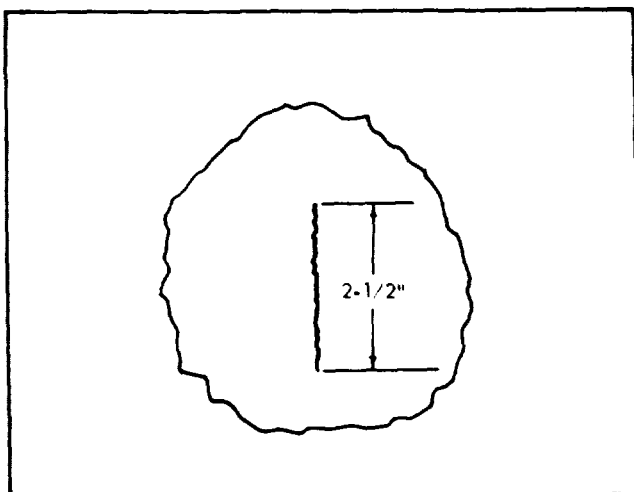

Figure 4-1. Linear Tear
- a. Patching linear (straight) tears 2 1/2 inches or less in length (see Figure 4-1).